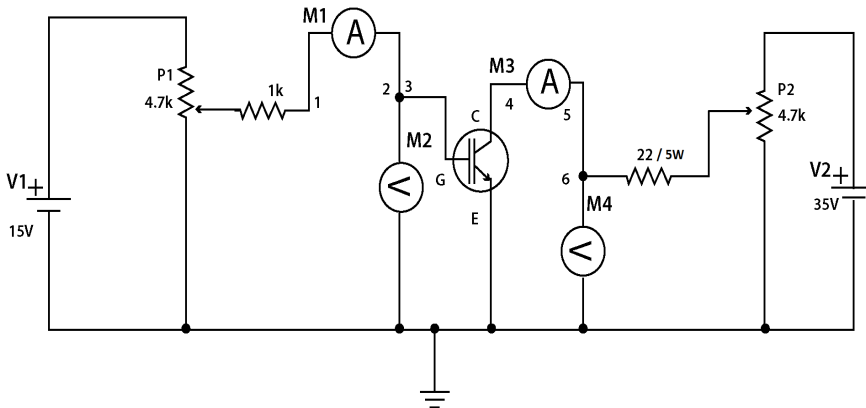

Figure 5
1. Connect the circuit as shown in Figure 5 using patch cords.